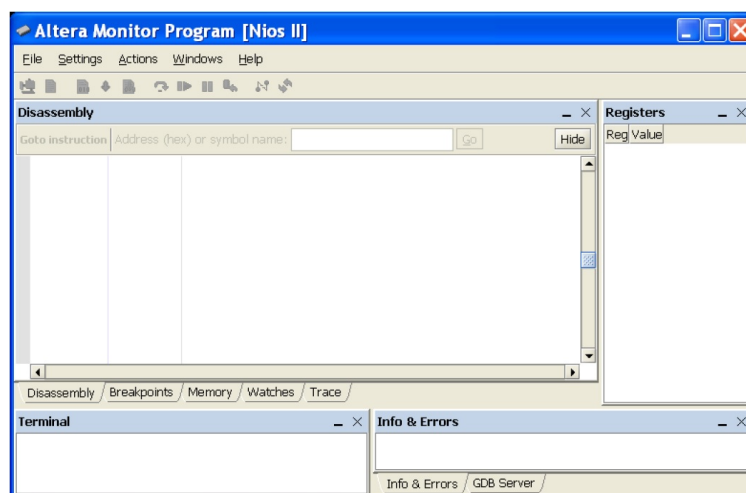

Figure 1: The Altera Monitor Program Window.
2. Open the Altera Monitor Program, which leads to the window in Figure 1.